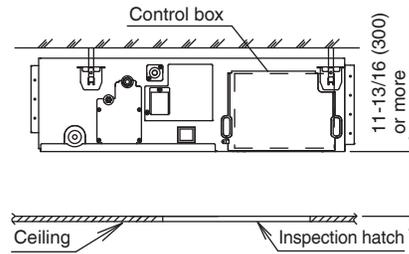

Fig. 3
- Inspection hatches 1 and 2 17-3/4×17-3/4 (450×450) (Fig. 3-1) and a minimum space of 11-13/16 (300) at the bottom of the product (Fig. 3).